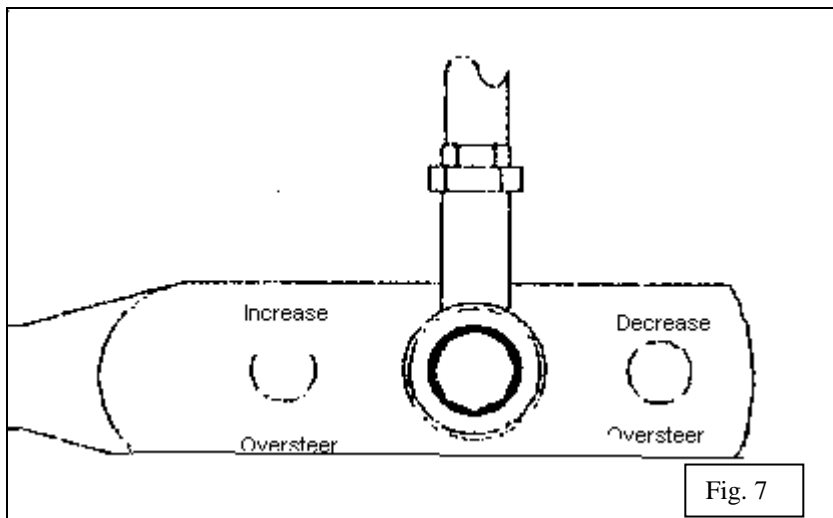

Fig. 7
12. Check that all components and fasteners have been properly installed, tightened and torqued. Refer to Fig. 7 for proper oversteer adjustment.